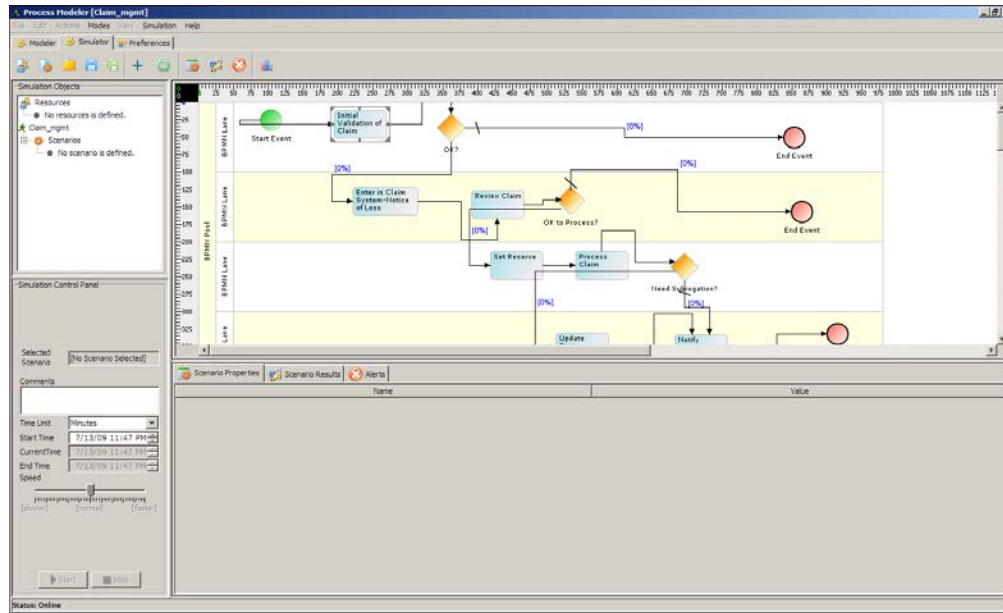

Figure 39: Process Simulator
- In the Process Modeler applet click the **Simulator** tab. The process **Simulation** applet is displayed (see Figure 39).